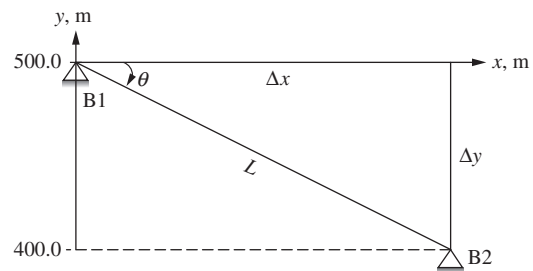

Figure P3.40 Elevation between the two benchmarks for problem P3-39.
- 3-40.** Consider the elevation between the two benchmarks shown in Fig. P3.40. The distance L between the benchmarks B1 and B2 is 100 m, and their elevations are 500 m and 400 m, respectively.